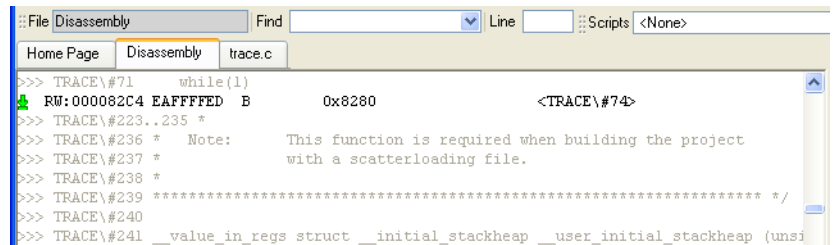

Figure 10-23 Trace End Point set
- e. Click **OK**. The dialog box closes, and the Trace End Point is set as indicated by the green arrow . Figure 10-23 shows an example: